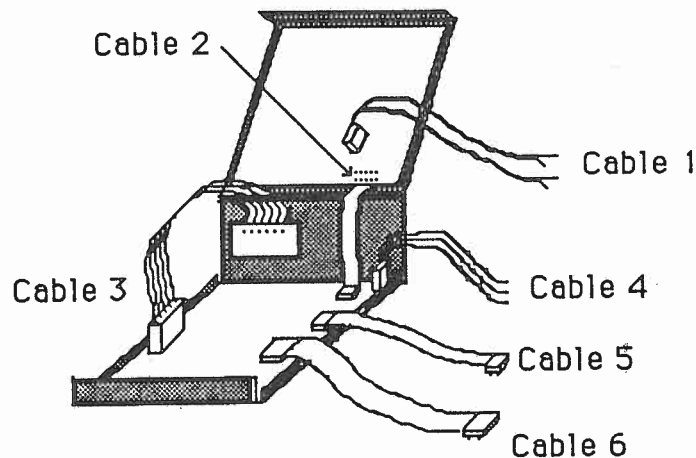
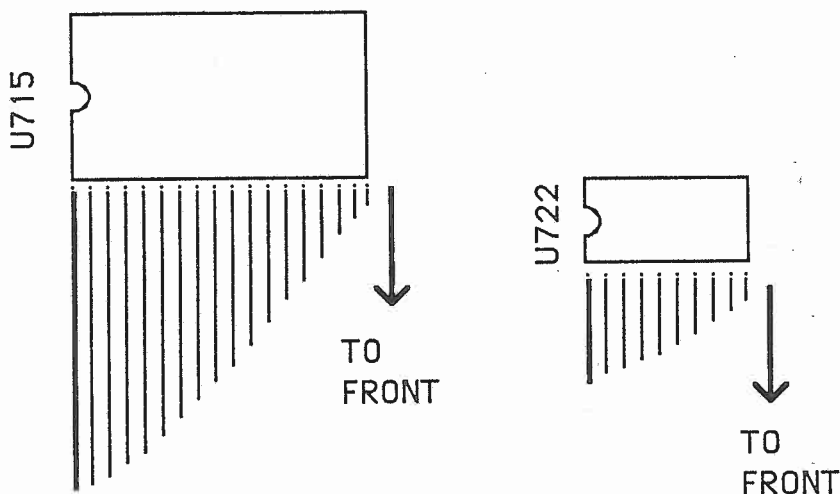

fig. 5
figure 6
6. Cable #2 is the ribbon cable that is soldered to the Stretch Switch board. (Refer to figure 5 for cable numbers and locations). Plug the free end of Cable 2 into the socket labeled 'B' in the upper right hand corner of the Stretch Processor board (as shown in figure 5).
7. Connect the Molex cable coming from the Trimmer board (Cable #3 in figure 5) to the Molex connector labeled 'A' on the Processor board.
9. Insert the free end of Cable #6 (see **figure 5** for cable numbering) into location U715 on the DX Processor board making sure pin 1 of the cable is lined up with pin 1 of the socket. When inserted correctly, the ribbon cable will be coming out the side of the socket that is nearest to the front of the chassis. See **figure 6**.
11. Insert the free end of Cable #5 into location U722 on the DX Processor board making sure pin 1 of the cable is lined up with pin 1 of the socket. When inserted correctly, the ribbon cable will be coming out the side of the socket that is nearest to the front of the chassis. See **figure 6**.